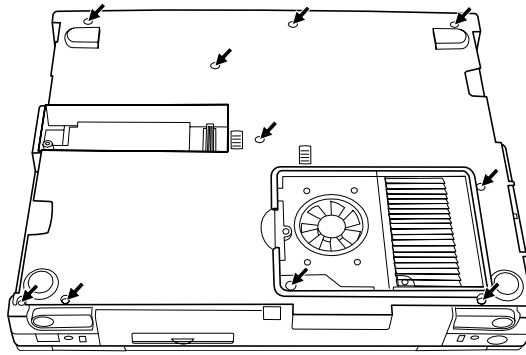

FIGURE 7-27. REMOVING THE BOTTOM CHASSIS
5. REMOVE TEN BOTTOM SCREWS TO SEPARATE THE BOTTOM CHASSIS FROM THE BASE UNIT. (REFER TO FIGURE 7-27 ON NEXT PAGE).
1. REINSTALL THE BOTTOM CHASSIS AND SECURE WITH TEN SCREWS. (REFER TO FIGURE 7-27 EARLIER).